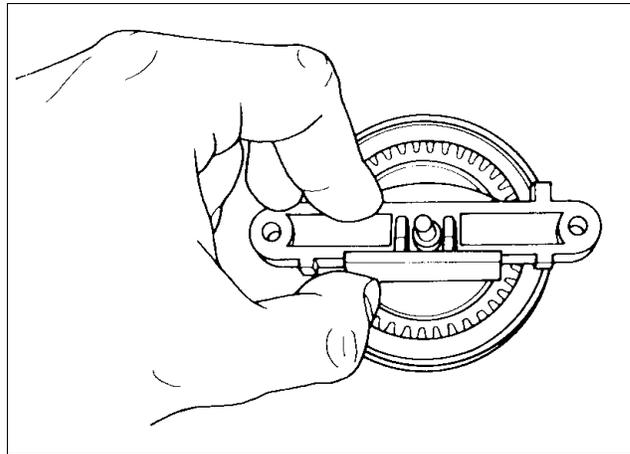

Figure 74-13. Bearing Bar Assembly
- (11) Assemble the condenser into the distributor housing, being sure to rotate the condenser wire the same rotation as the condenser is tightened in the housing..
- (12) Distributor gear assembly
(13) Install distributor block
- (b) Assemble the bearing bar to the distributor block as shown in Figure 74-13.